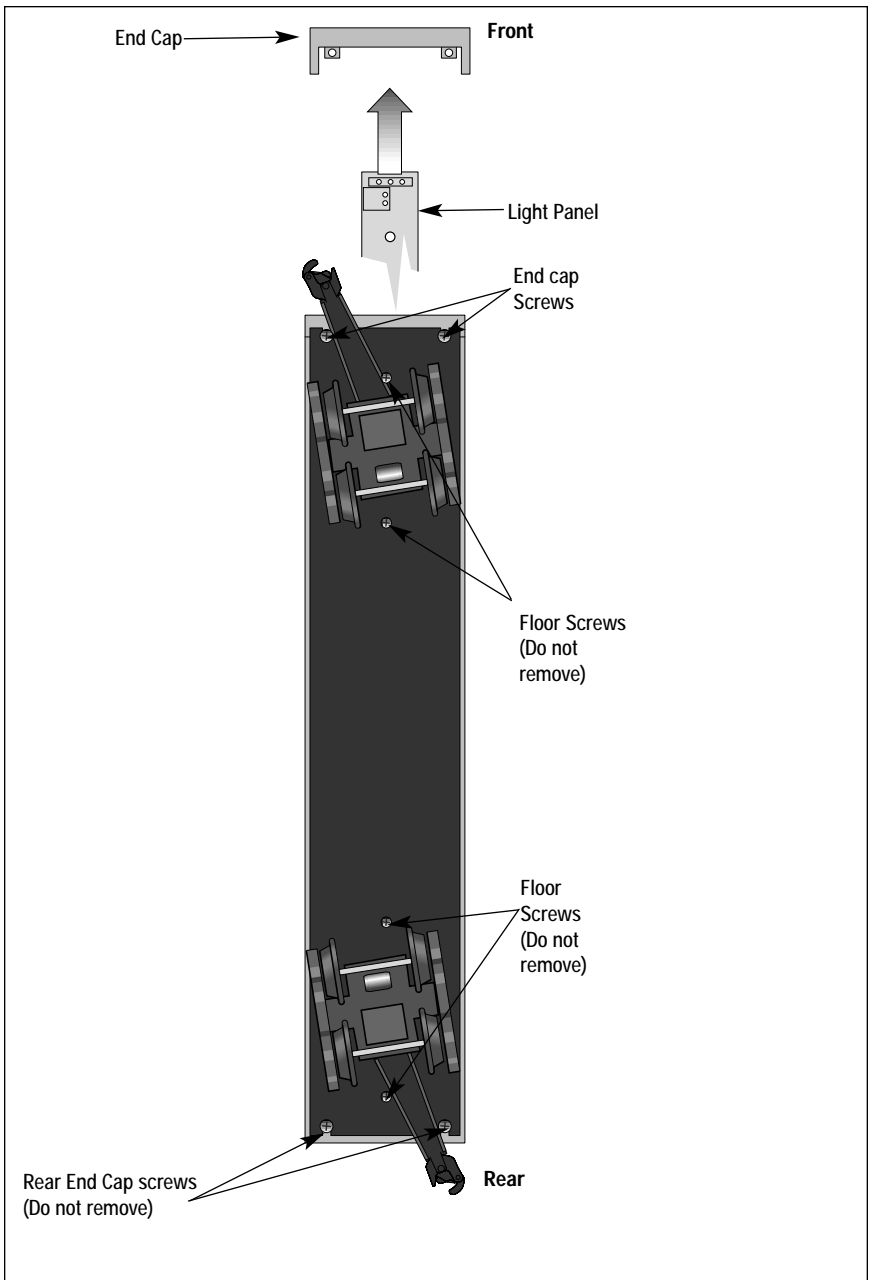

Figure 7. Removing the end cap and light panel
1. Loosen the two end cap screws at the bottom of the frame in the front of the car and pull the endcap off the car body. See Figure 7 for the locations of screws and endcaps.